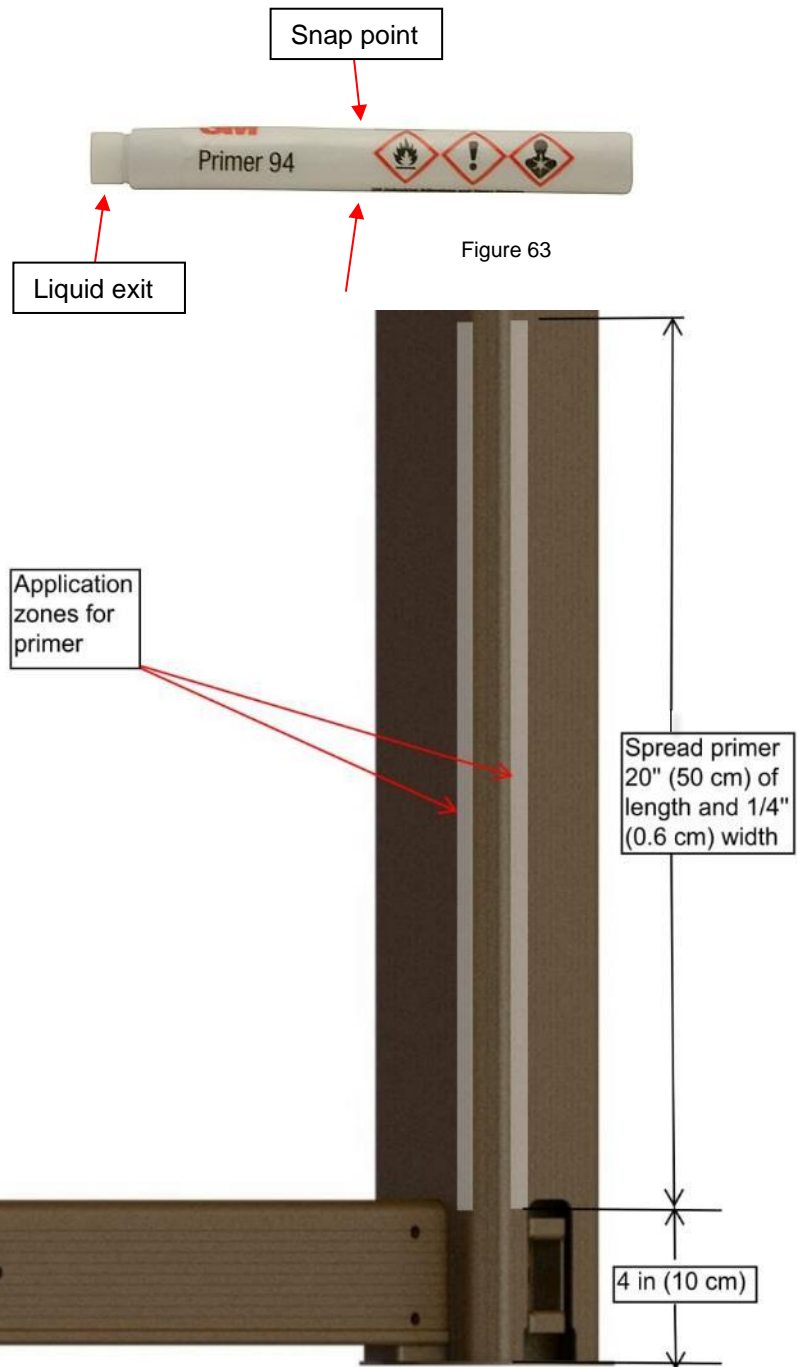
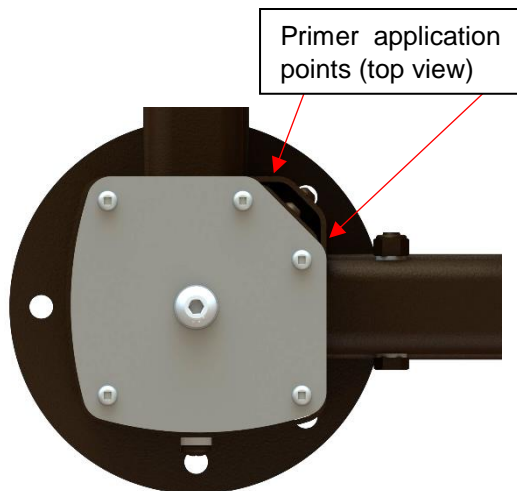

Figure 64
Figure 65
- 7) Clean the surface of the outer sleeve positioned on the opposite corner of the light button. Remove any dirt or contaminant and dry the surface (Figure 64).
- 8) Use the supplied alcohol swab and rub it on the surface of the outer sleeve positioned on the opposite corner of the light button to clean the surface. (Figure 64 and Figure 65). Wait two minutes for the alcohol to dry.
- 9) Apply the primer on the inside corner at the indicated areas. Refer to Figure 64 and Figure 65. The wire guard can also be held in place and taped off around its perimeter to mark off the application area. **Important:** Failure to apply the primer will result in the wire guard unsticking over a short period of time. The primer will act as the optimal bonding agent for the paint. To use the primer, snap the bottle in the middle for the liquid to come out. (Figure 63)